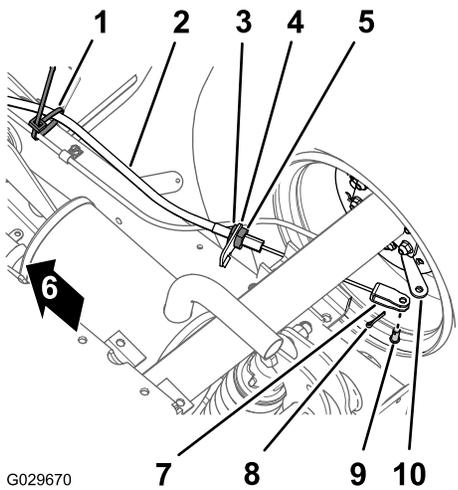

Figure 44
1. At the bottom of the machine, remove the cable tie that secures the parking-brake cable to the service brake line (Figure 44).
2. Mark a rotation stripe on the forward jam nut for the parking-brake cable (Figure 44).
- Loosen the rear-jam nut and remove the cable from the brake-cable bracket (Figure 44).
- Remove the cotter pin and the clevis pin that secure the clevis for the parking-brake cable to the brake-actuating lever and separate the cable from the lever (Figure 44).
1. Route the threaded adjuster of the parking-brake cable to the brake-cable bracket and the clevis to the brake-actuating lever (Figure 44).
3. Align the threaded adjuster of the parking -brake cable to the brake-cable bracket and tighten the rear-jam nut (Figure 44).